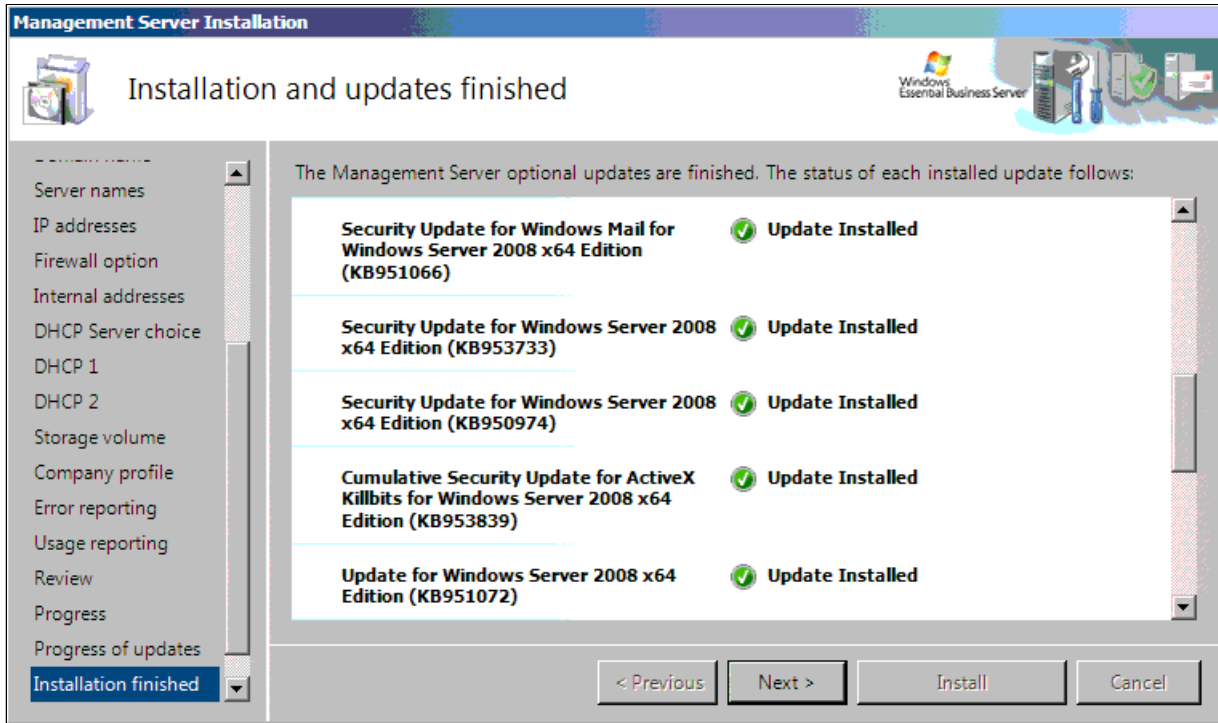

Figure 4-22 Installation and updates finished
32. Review the status of your installation and updates on the “Installation and updates finished” panel (Figure 4-22). Click **Close**.